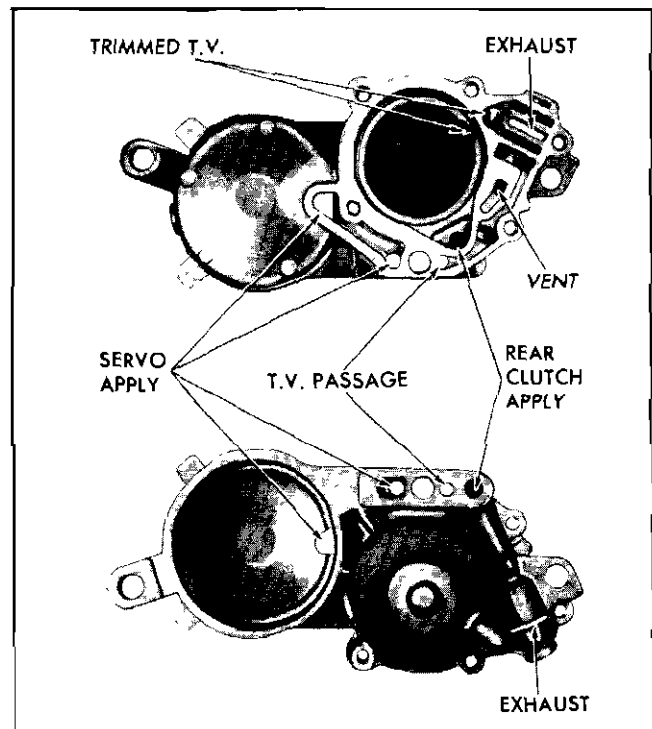

Fig. 133 Oil Passages in Servo and Accumulator Body
3. Inspect accumulator body for restricted passages (Fig. 133), scores or burrs.